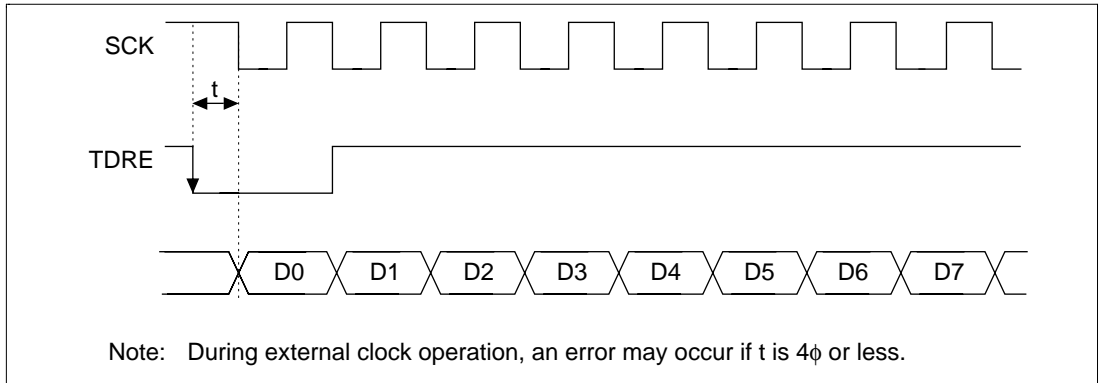

Figure 14.25 Example of Clock Synchronous Transmission with DMAC
- When using an external clock source for the synchronization clock, update the TDR with the DMAC or the DTC, and then after five system clocks or more elapse, input a transmit clock. If a transmit clock is input in the first four system clocks after the TDR is written, an error may occur (figure 14.25).